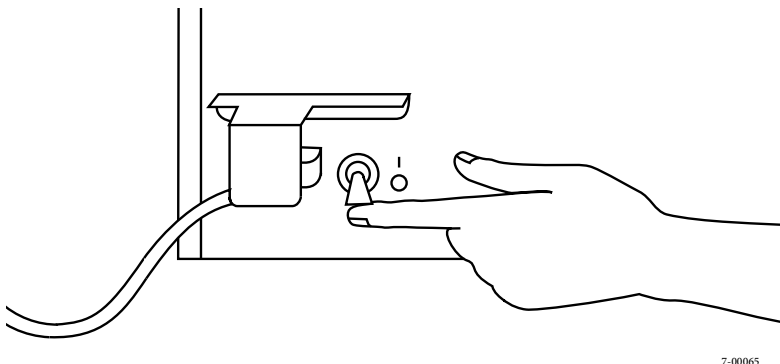

Figure 3-1. Turning the power switch on (the “I” position)
1. Turn the power switch on (see Figure 3-1). The ventilator displays this message: